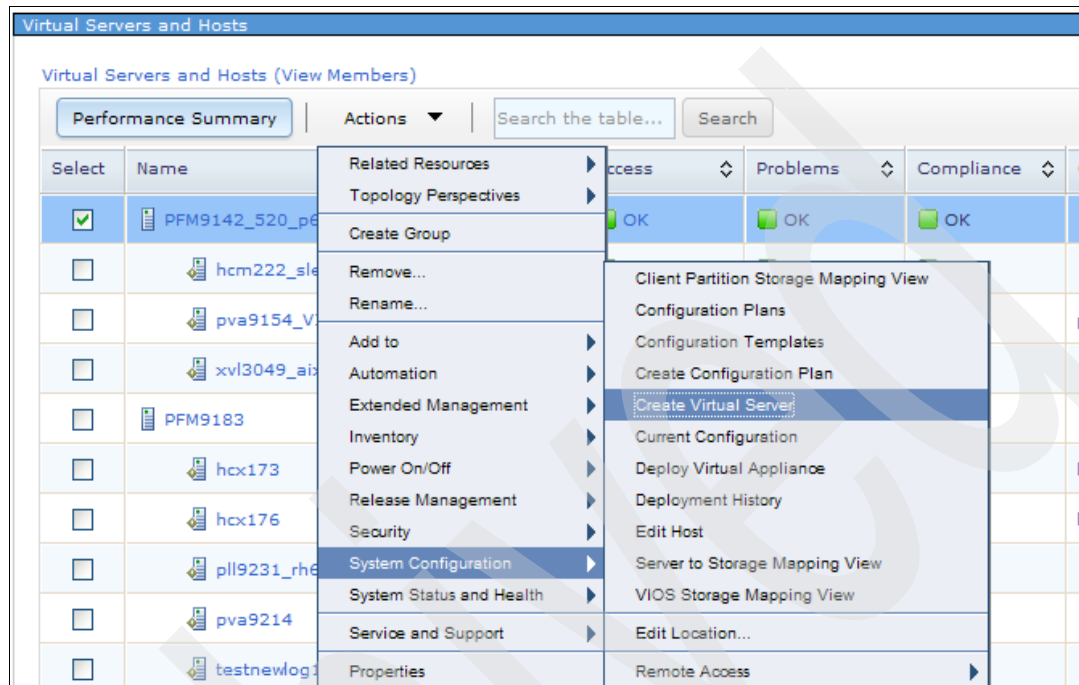

Figure 5-10 Create Virtual Server
5. Select **Create Virtual Server**, as shown in Figure 5-10 on page 172.